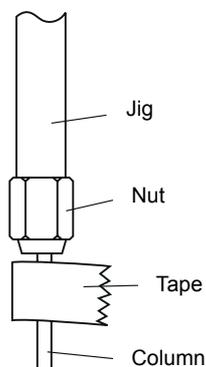

Figure 2.24 Marking the Column with Tape
- (3) Mark the capillary column beneath the tightened nut with tape as shown in Figure 2.24 "Marking the Column with Tape".
- (4) Remove the capillary column from the jig without moving the tape, and wipe the capillary column with acetone. Insert the column into the injection port and secure it by hand tightening the nut. If the ferrule is new, use the wrench to turn the nut an additional full turn. If the ferrule has been previously used, use the wrench to tighten the nut by turning it 20 to 40 degrees.
- (5) Remove the tape used to mark the column.
- (4) Remove the capillary column from the jig without moving the tape, and wipe the capillary column with acetone. Insert the column into the MS interface and secure it by hand tightening the nut. If the ferrule is new, use the wrench to turn the nut an additional full turn. If the ferrule has been previously used, use the wrench to tighten the nut by turning 20 to 40 degrees.